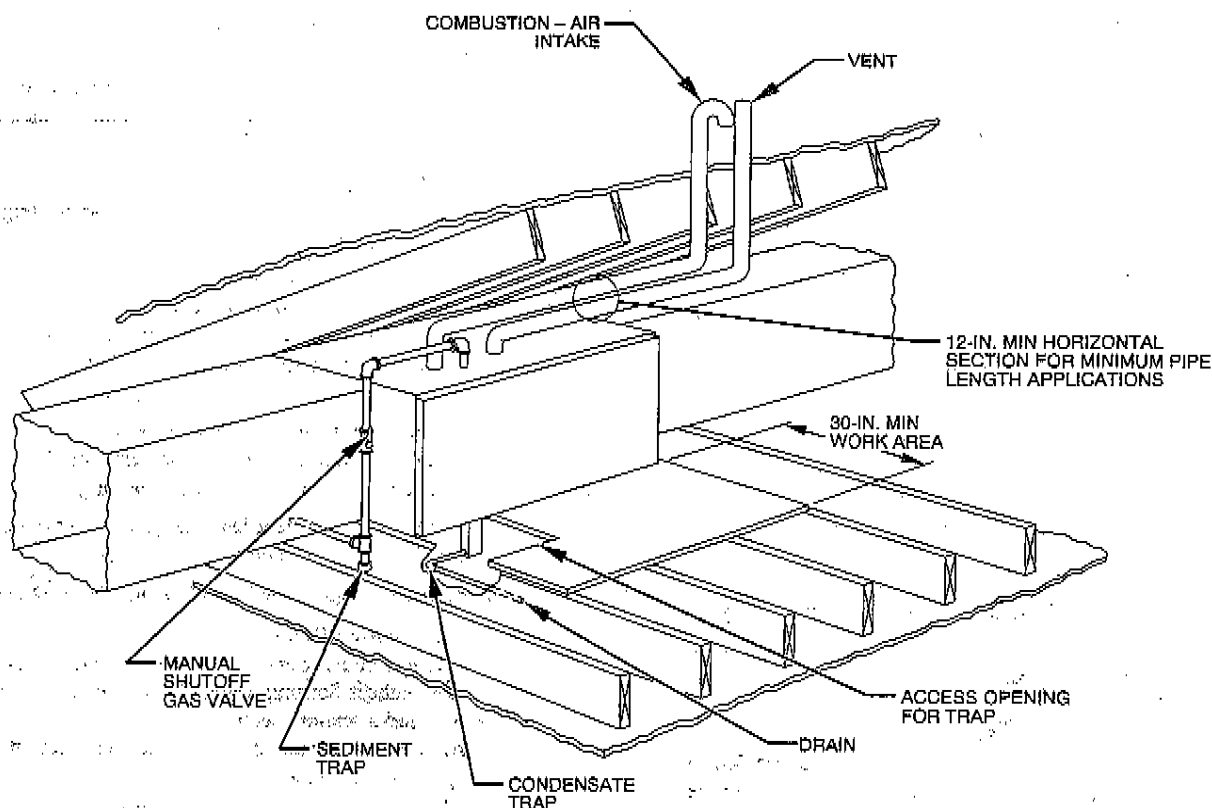

Fig. 9—Attic Location and Working Platform
**NOTE:** A 12-in. minimum horizontal pipe section is recommended with short (5 to 8 ft) vertical vent systems. This recommendation is to reduce excessive condensate droplets from exiting the vent pipe. (See Fig. 9.)